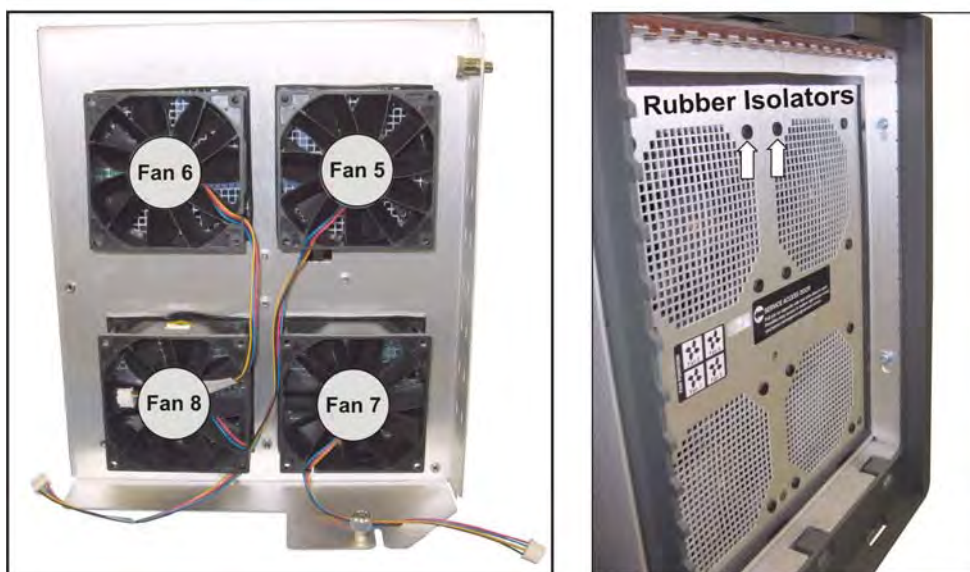

Figure 5-16 Remove Light Engine Fan Pack
10. Replace the fan(s) required by removing the rubber isolators from each fan. **(Figure 5-16)**